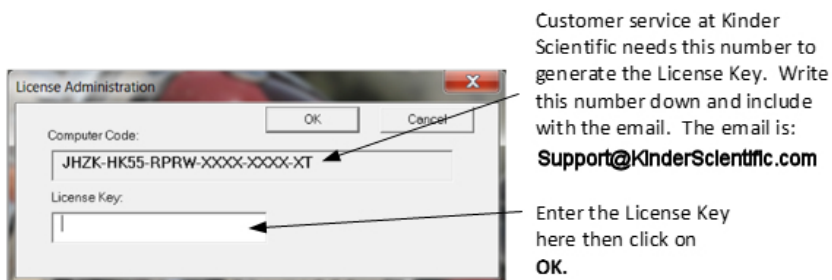

Figure 17 License Key Window
3. To start the StartleMonitor software, click on the StartleMonitor icon. If you are a GLP facility, when you click on the StartleMonitor icon the following screen (Figure 17) will appear. Call or email Kinder Scientific to obtain the License Key.